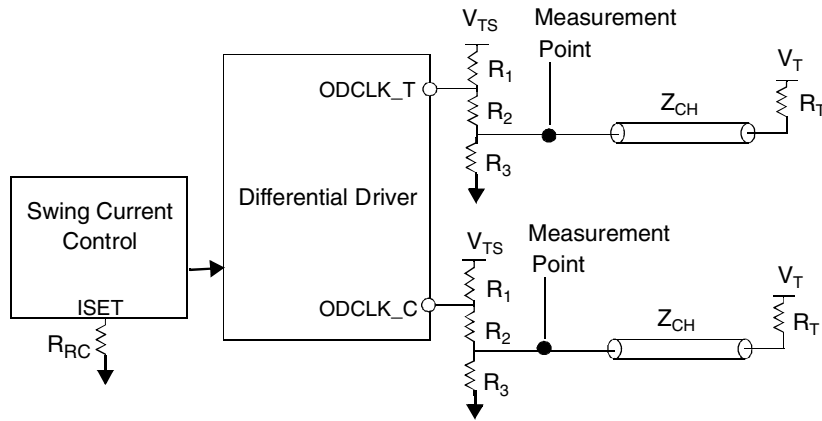

Figure 2. Example System Clock Driver Equivalent Circuit
- 1 When using singled-ended clock input, V_{TH} is supplied to CLK_INT_C as shown in Figure 2. Duty cycle of singled-ended CLK_IN is measured at V_{TH}
Figure 2 shows the clock driver equivalent circuit. The differential driver produces a specified voltage swing on the channel by switching the currents going into ODCLK_T and ODCLK_C. The external resistor R_{RC} at the IREFY pin sets the maximum current. The minimum current is zero.
The driver output characteristics are defined together with the external resistors, R_1 , R_2 , and R_3 . The output clock signals are specified at the measurement points indicated in Figure 2. Table 5 shows example values for the resistors.
- 1 A different set of resistors is used in Figure 2 when testing for maximum output current of the clock driver (I_{OLABS}). These resistors are: $R_1 = 34\Omega$, $R_2 = 31.8\Omega$, $R_3 = 48.7\Omega$, $R_T=28\Omega$, $R_{RC} = 147\Omega$
For a singled-ended clock input, an external voltage divider and a supply voltage, as shown in Figure 2, provide a reference voltage V_{TH} at the CLK_INC pin to determine the proper switching point for CLK_INT. The range of V_{TH} is specified in the **DC Characteristics – Inputs** table.